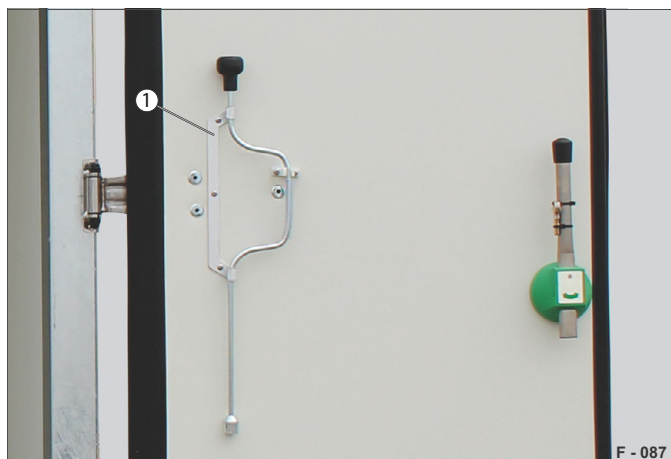

Fig. 29 Crank handle, secured
- Remove the crank handle from the crank handle holder (Fig. 29 /1).